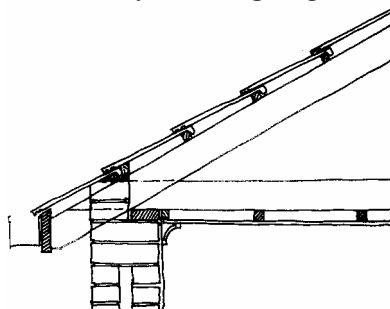

Figure 7.2 Seal beam filling
- ❖ **Seal the gap between the roof and the outside wall with mortar, taking care that the roof movement does not break away the filling. Fig7.2**